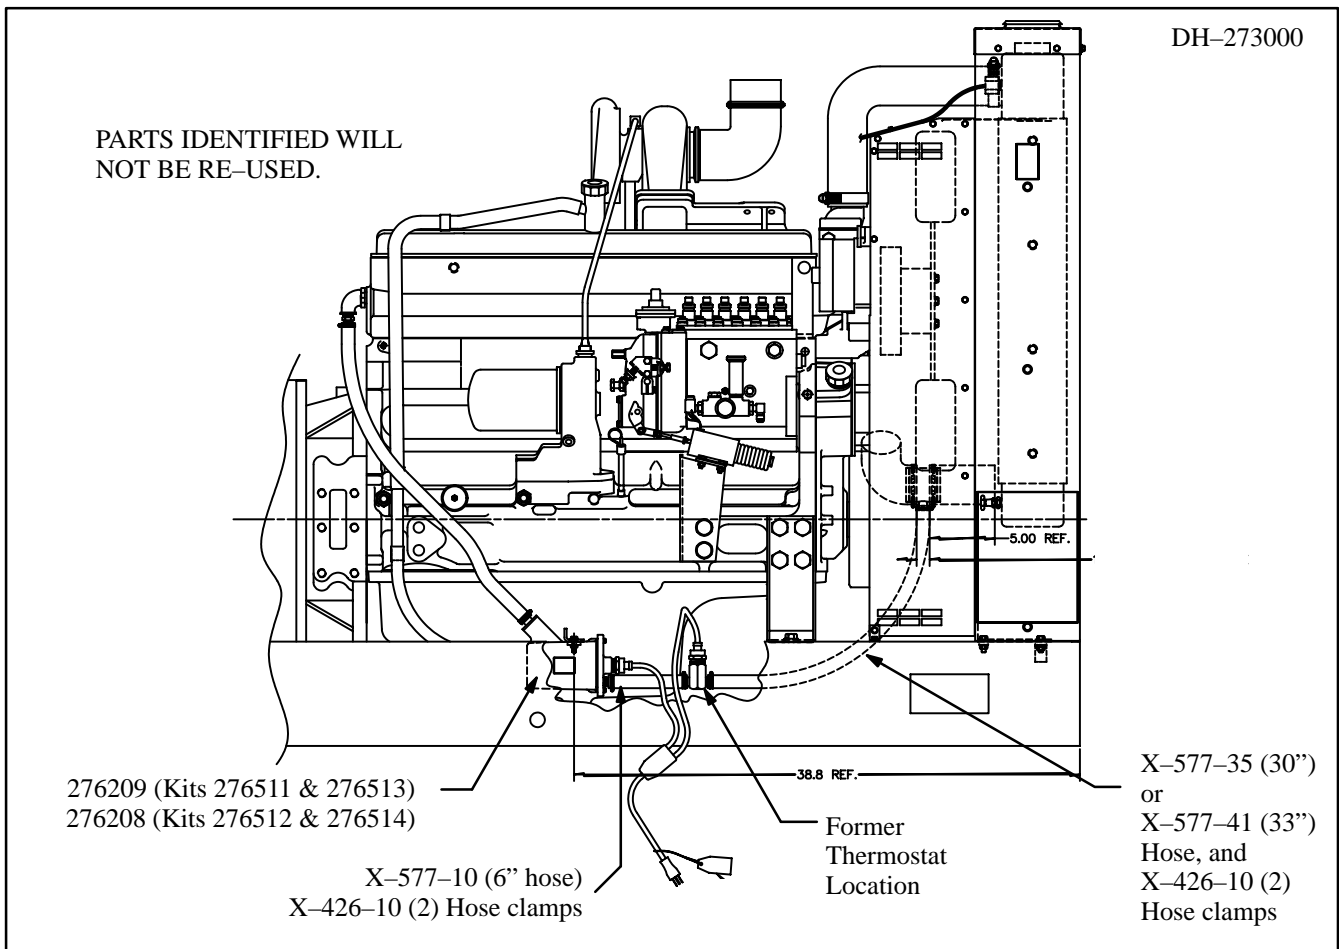

Figure 2. Block Heater Kit Removal (Early Version Tank-Type)
If set is already installed with a tank-type heater (as shown in Figure 2) proceed to Step #8. However, if component parts show wear or are damaged in some way, then replace with parts supplied in kit and follow all instructions provided.
9. Remove and discard 6" hose (X-577-10) and two hose clamps (X-426-10). See Figure 2.
10. Remove and discard 30" hose (X-577-35) or 33" hose (X-577-41) and two hose clamps (X-426-10). See Figure 2.